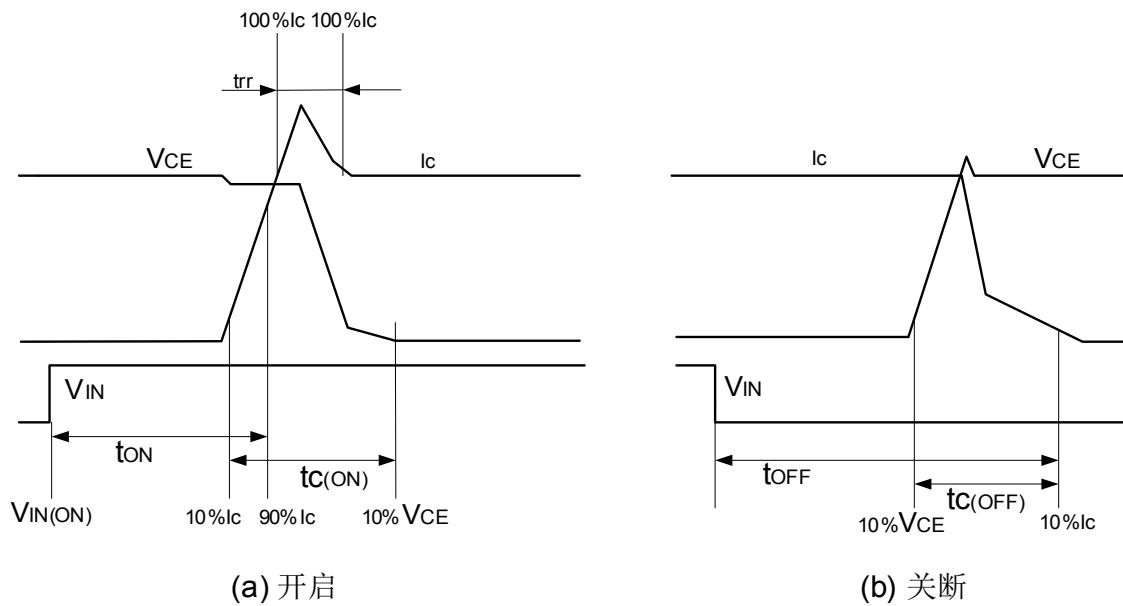

图 4: 开关时间定义 Fig 4: Switching Time Definition
备注 2:  $t_{ON}$  和  $t_{OFF}$  包括驱动  $I_C$  内部传输延迟时间。  $t_{C(ON)}$  和  $t_{C(OFF)}$  是 IGBT 自身被内部给定门极驱动条件下的开关时间。详见图 4。
NOTE 2: tON and tOFF include the propagation delay time of the internal drive IC. tC(ON) and tC(OFF) are the switching time of IGBT itself under the given gate driving condition internally. For the detailed information, Please Refer to Fig 4.